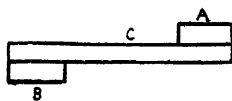

FIG. 192
1. Bench-hooks, against which children can press their strips of wood and hold them firmly. A simple one is shown in Fig. 192.